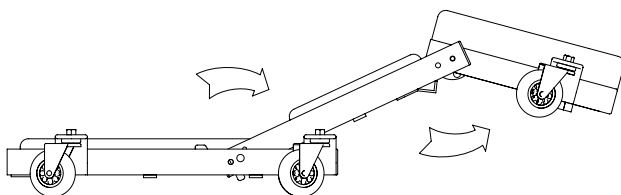

Figure 9 - Creeper configuration
3. Adjust hinged caster brackets so wheels will contact ground properly. Unlock spring loaded Lock Pins, then reverse steps 1 and 2, as shown in Fig. 9, to convert Creeper Seat into Creeper.